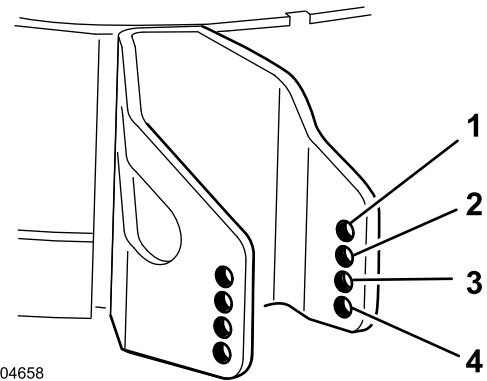

Figure 19
- Select a hole so the anti-scalp roller is positioned to the nearest corresponding height-of-cut desired (Figure 19).